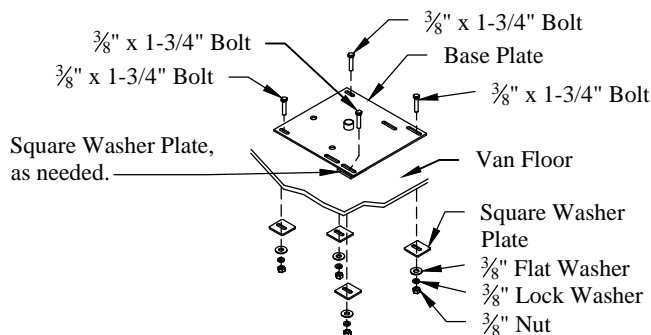

Figure 4: Base plate hardware.
- 9. Bolt** the base plate to the vehicle floor using the hardware provided. There are access holes in the bottom of the rear cross member for the rear two bolts (Figure 4).